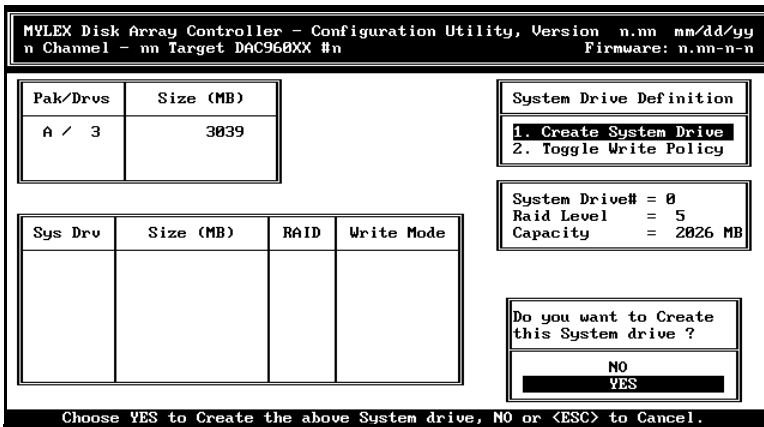

Figure 2-23. System Drive Summary
4. Define the size of this system drive in the **Enter Size (MB)** popup. By default, the maximum possible size for the system drive you’re defining is displayed.
5. A window with a summary of this system drive’s settings and a confirmation dialog box is presented (Figure 2-23).